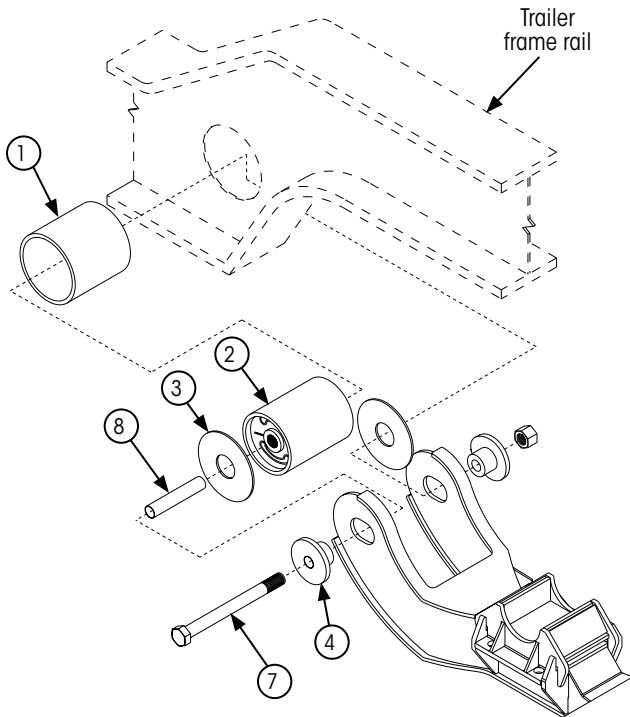
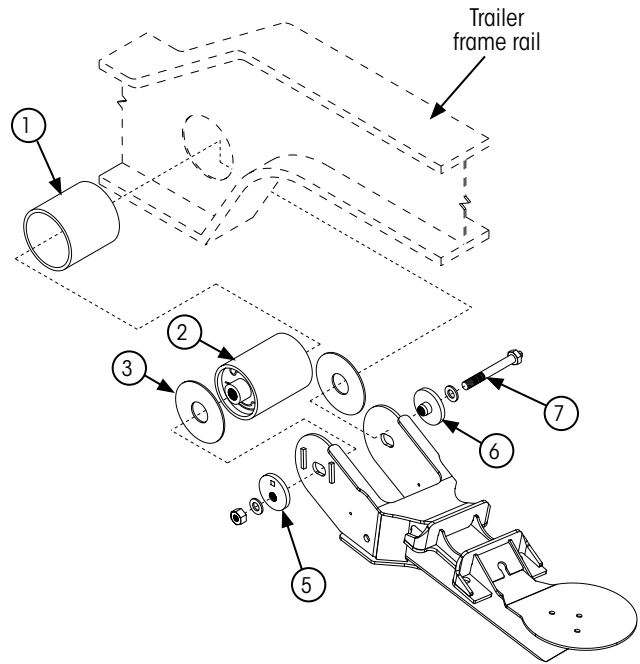

Figure 26: Welded collar pivot connection hardware
Figure 27: QUIK-ALIGN® pivot connection hardware
Y-beam suspensions require bushing tube sleeves which are welded directly to the existing trailer frame as part of the suspension installation procedure (Figure 26, Figure 27 and Table 2).
1. **Center** bushing tube sleeves (Figure 26 and Figure 27, item 1) into the cutouts located on the trailer frame web.
Unlike suspensions with a frame bracket, Y-beam bushings come pre-assembled in a casing (Figure 26 and Figure 27, item 2) and do not require a bushing tool to assemble.